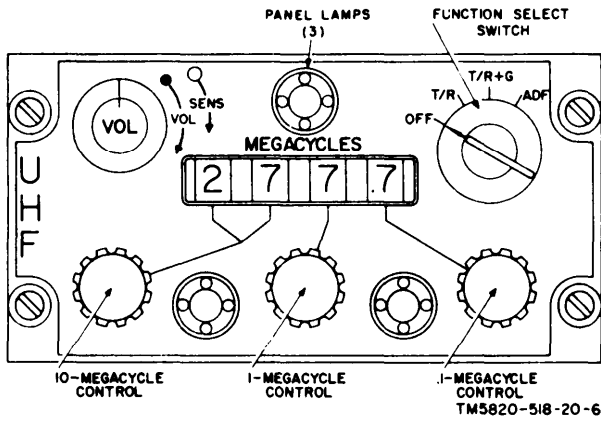

Figure 2-1. Radio Set Control C-4677/ARC-51X, front panel controls.
The radio set control contains operating controls for the receiver-transmitter and three panel lamps (fig. 2-1). The panel lamps are mounted behind the front panel of the C-6287/ARC-51BX (fig. 1-2). The radio set control is intended for panel mounting in the aircraft and is held in place by four Dzus fasteners (fig. 1-1) and eight Dzus fasteners in the C-6287/ARC-51BX (fig. 1-2). Connections to the receiver-transmitter are made through a connector on the rear of the radio set control.
2-1. Operator's Controls and Indicators (figs. 2-1 and 2-2)
(figs. 2-1 and 2-2)
- b. Set the function select switch (figs. 2-1
2-4. Operating Procedures (figs. 2-1 and 2-2)